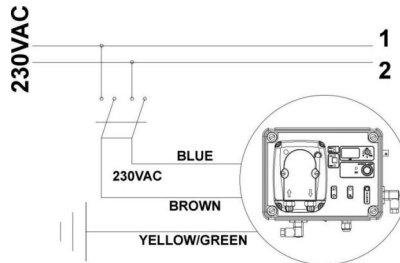

Fig. 2
- b. - Carefully observe the regulations in force in the various countries as regards electrical installations (Fig.2). **When the supply cable is devoid of a plug, the equipment should be connected to the supply mains by means of a single-pole circuit breaker having a minimum distance of 3 mm between the contacts. Before accessing any of the electrical parts, make sure that all the supply circuits are open.**